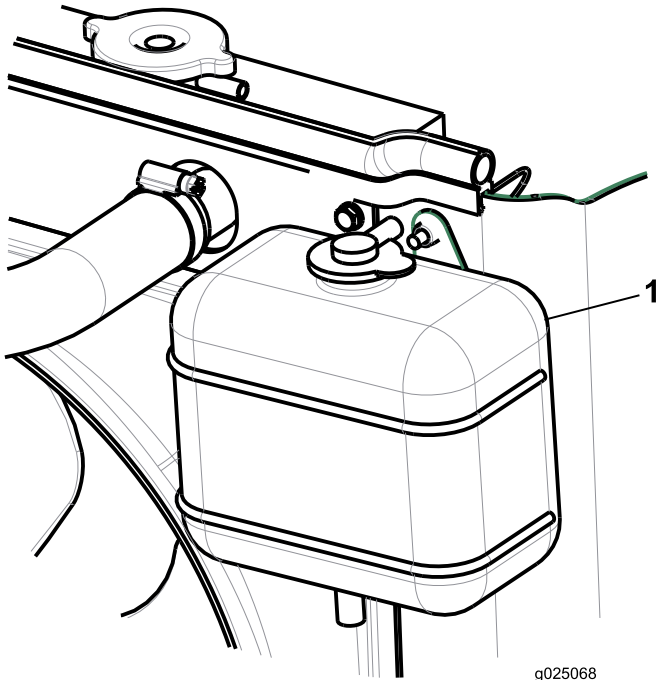

Figure 23
2. Check the level of the coolant in the expansion tank (Figure 23).